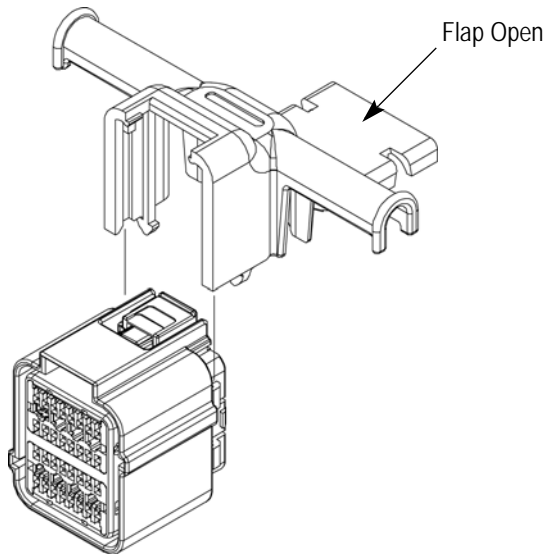

Figure 5
3. Align the keys on the plug housing with the slots in the strain relief (Figure 5).